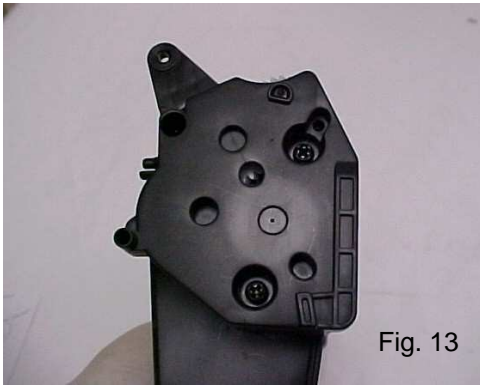

Fig. 13
11. Make sure the PCR, right stabilizer, and gear assembly are oriented correctly. Assemble the P2CP1320 Right End Cap onto the right side of the hopper and tighten the two screws (Fig. 13).